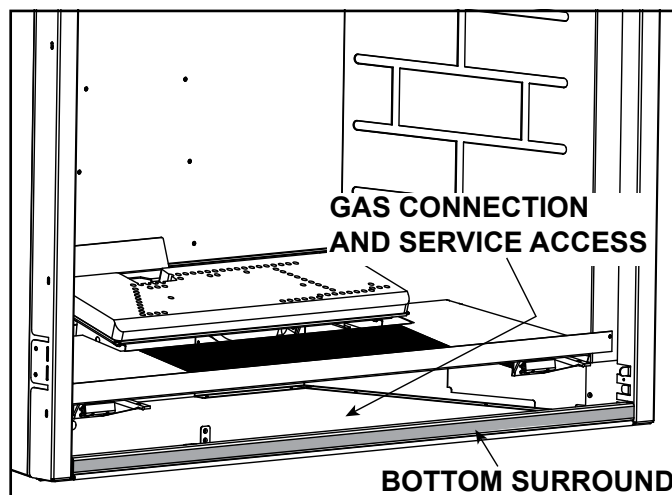

Figure 9.1 Bottom Surround Removal
- The bottom surround for this appliance may be removed to gain access to the control cavity for ease of access during the gas connection process. See Figure 9.1 and Figure 9.3.